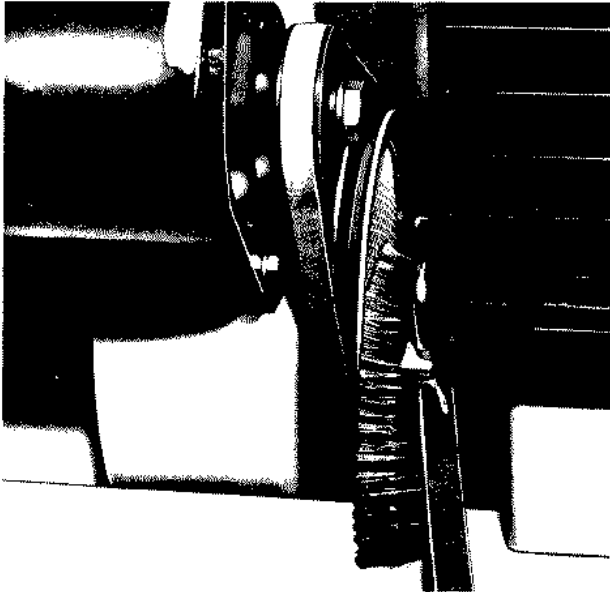

Figure 14
5. Clean flywheel screen. Use a brush similar to a wire brush or an automotive snow brush. Check and clean regularly. Clean engine fins at same time. Clean screen from R.H. side of tractor. Clean as far as you can reach, turn engine over until part of screen which is not cleaned is exposed and finish cleaning. See Figure 14. Remove spark plug wire to avoid accidental starts.
ENGINE COOLING SCREEN - Check and clean engine air cooling screen. Use a narrow wire brush or a brush similar to an automotive snow brush. (See Figure 14.)